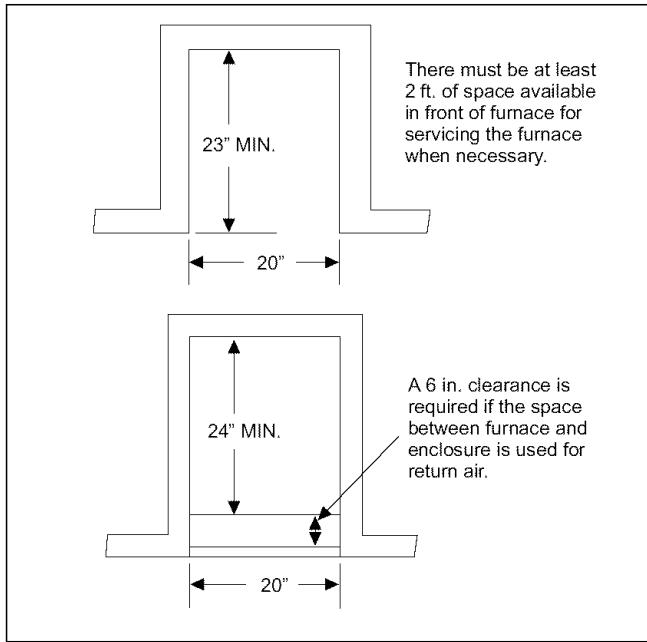

FIGURE 2 : ALCOVE & CLOSET CLEARANCES
The return air opening can be located in a closet front door or a sidewall above the furnace casing, or in a louvered door on the furnace. If opening for the return air is located in the floor, side walls or closet door anywhere below furnace casing height, 6 inches minimum clearance must be provided on the furnace side where return is located to provide for proper air flow. See Figure 2. The 6" minimum clearance is not required if there is a return grille installed above the furnace height. This return grille cannot start more than three feet above the furnace height.
2. A minimum of six (6) inches should be maintained between the furnace and closet door when door is used for return air. See Figure 2.
3. Two (2) feet of space must be available in front of furnace for future servicing (blower or element removal, furnace removal, etc.).